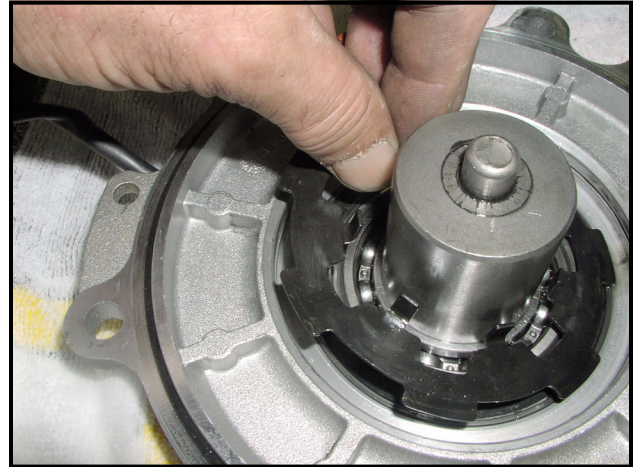

Figure 9-11 Armature Plate
5. Remove armature plate (**Figure 9-11, Page 9-5**).
2. Position armature plate around hub and bearing (Figure 9-11, Page 9-5). See following NOTE.